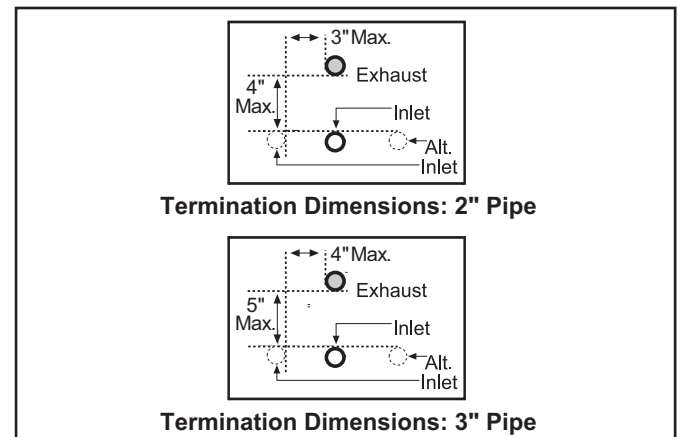

Figure 11.
When venting one water heater, locate the inlet and exhaust terminations according to Figure 11 below. When installing more than one water heater, see Venting Multiple Units on Page 30.
7. Refer to Figure 11 in "Vent Pipe Termination" for standard and alternate vent termination dimensions.